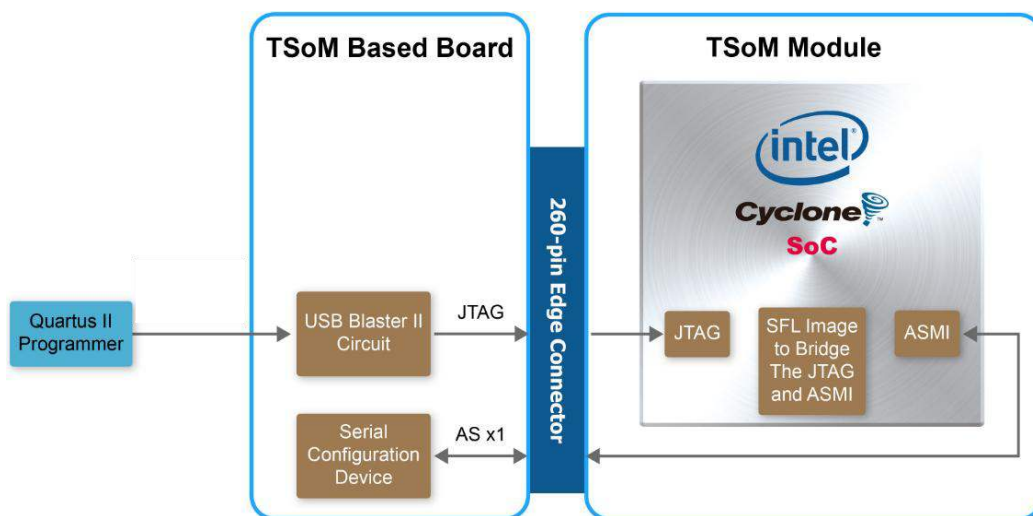

Figure 3-15 Programming a serial configuration device with SFL solution
Users need to use Serial Flash Loader (SFL) to program the serial configuration device via JTAG interface. The FPGA-based SFL is a soft intellectual property (IP) core within the FPGA that bridges the JTAG and Flash interfaces. The SFL Megafunction is available in Quartus II. **Figure 3-15** shows the programming method when adopting SFL solution.